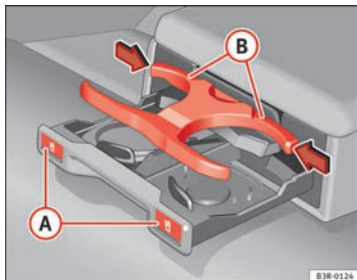

Fig. 131 Drink holder in the rear armrest
- Press the symbol  (A) ⇒ Fig. 131.